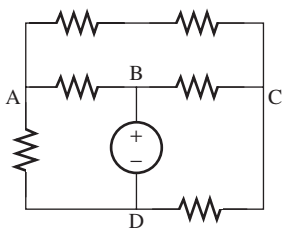

FIGURE P3.29 Circuit for Problem 3.29.
- 3.29** (B) Which node is the best choice for a reference node in the circuit in Figure P3.29?
3.42 (B) Identify the meshes and mark the mesh currents in Figure P3.29.